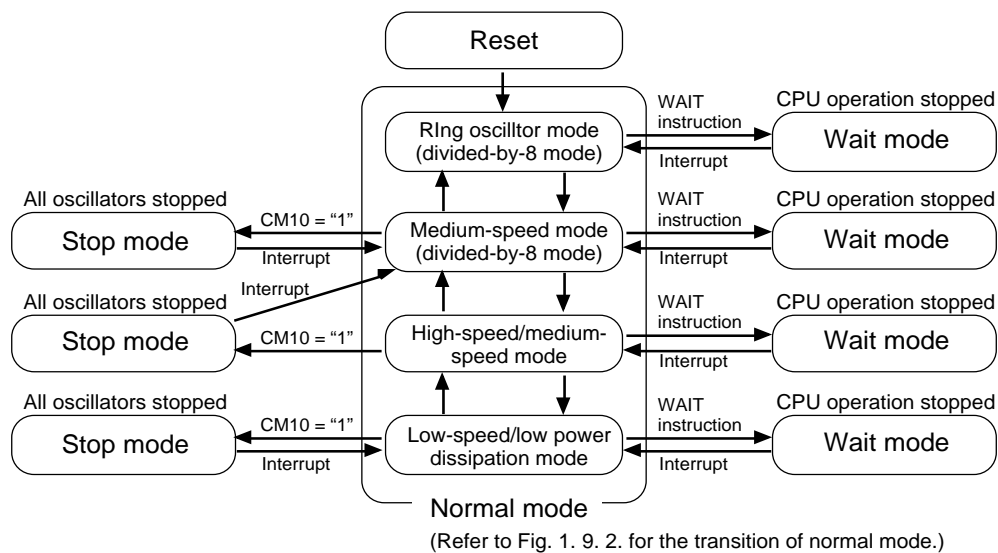

Figure 1.9.1. Clock transition (1)
Figure 1.9.1 and 1.9.2 show the transition between each of the three modes, (1), (2), and (3).